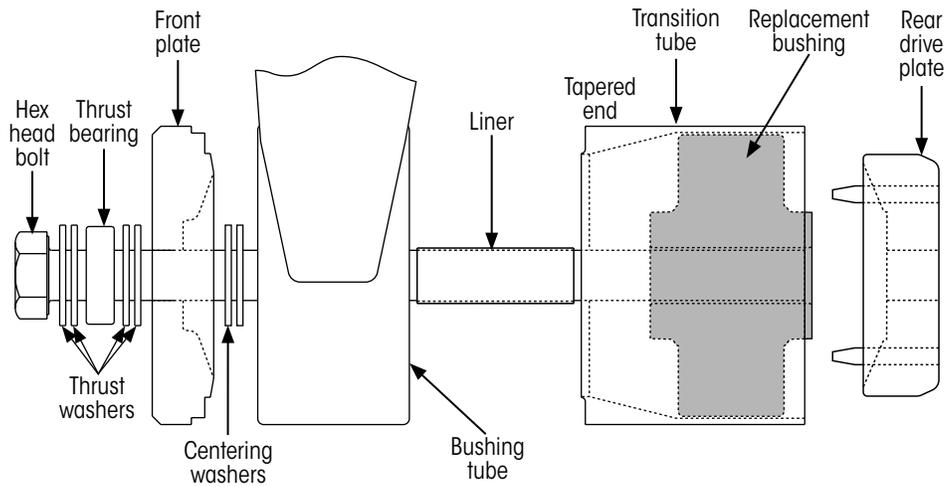
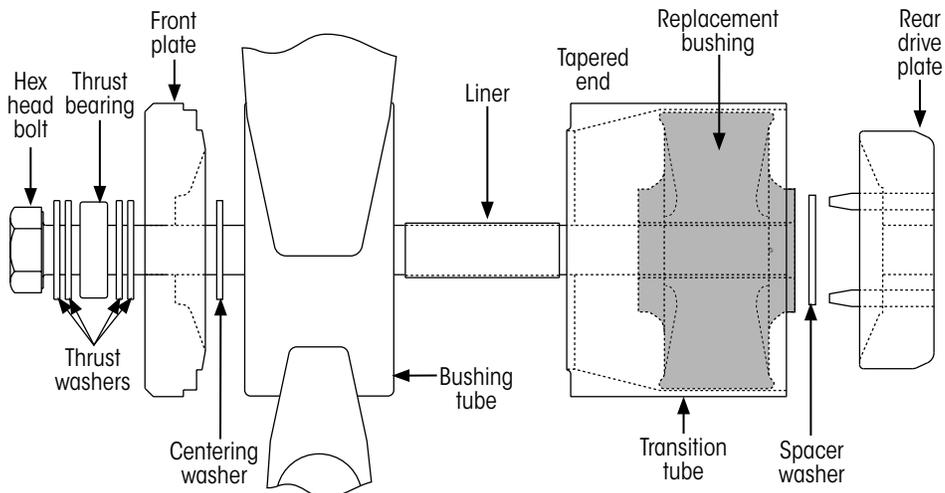

Figure 34: Assembling narrow bushing tool for TF III bushing installation
Figure 35: Assembling narrow bushing tool for QF I bushing installation
ii. TF III bushing (Figure 34) - Position **two centering washers** under the front plate.
iii. QF I bushing (Figure 35) - Position **one centering washer** under the front plate and the QF I bushing spacer washer with the rear drive plate.
9. (Narrow Bushing Tool Only) If a narrow bushing is being installed, slide the plastic liner (Figure 34 and Figure 35 on page 16) onto the hex head bolt. This liner slips inside the bushing and helps maintain the perpendicular relationship between the replacement bushing and the hex head bolt during installation.
7. **(QF I only)** Slide the QF I spacer washer (Figure 35 on page 16) onto the hex head bolt.